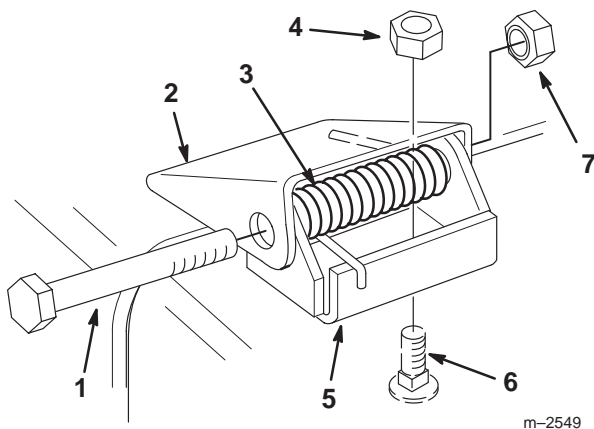

Figure 58
1. Remove the locknuts, bolts and springs holding the deflector mounts to the pivot brackets (Fig. 58).
2. If the pivot brackets need to be replaced, remove the carriage bolts and cone locknuts holding the old brackets to the top of the discharge opening, then install the replacement pivot brackets. Make sure the carriage bolt heads are on the inside of the cutting unit (Fig. 58).
3. Install the deflector mounts onto the pivot brackets with the bolts, springs and locknuts. Make sure the straight ends of the springs are positioned between the deflector mounts and the grass deflector (Fig. 58).
4. Tighten the locknuts until they contact the pivot brackets (Fig. 58).